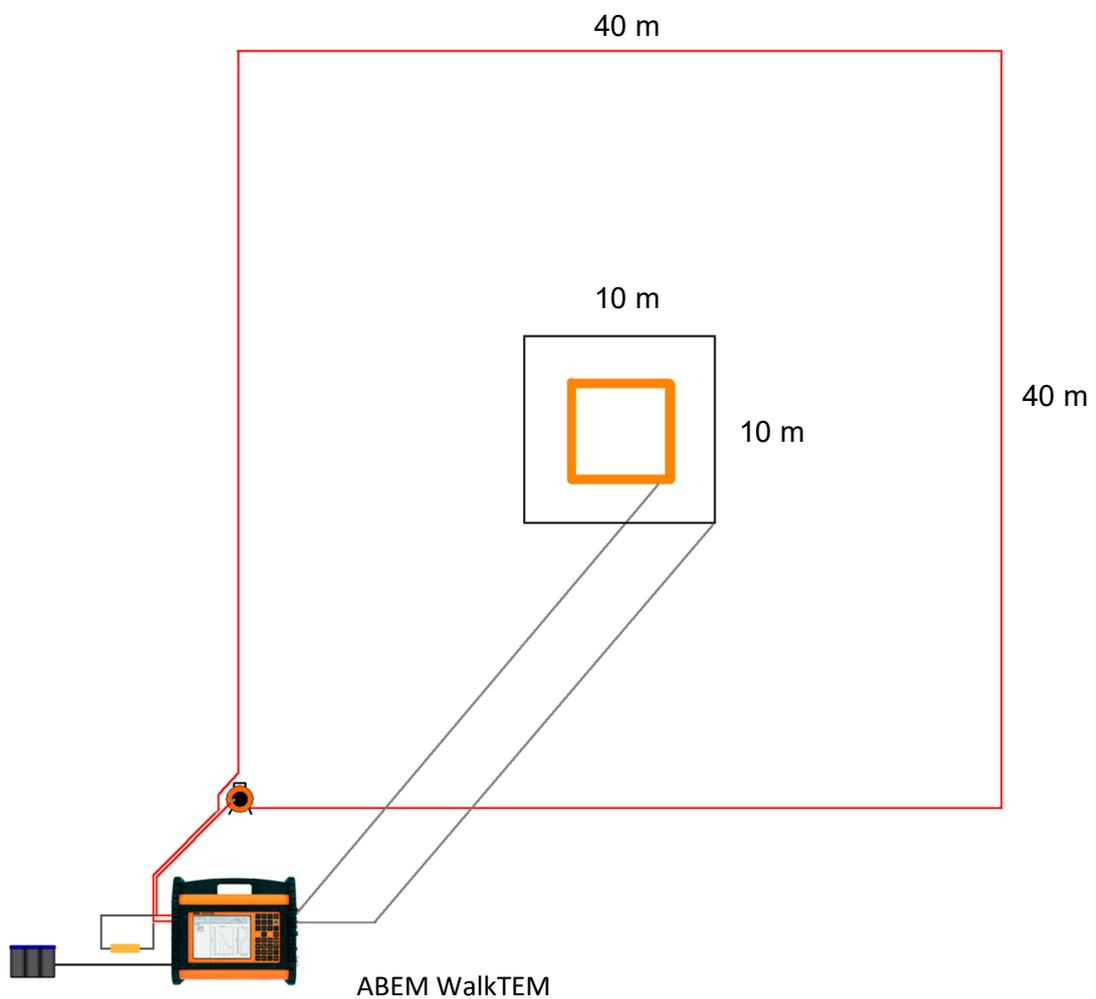

Figure 8. The ABEM WalkTEM field layout.
A typical field configuration for data acquisition using the ABEM WalkTEM is indicated in Figure 8. It comprises a 40 m x 40 m square transmitter loop, and either a small RC-5 receiver coil or the larger RC-200 receiver loop in a center configuration.
9) The ABEM WalkTEM layout is now complete, and should resemble that shown in Figure 8.